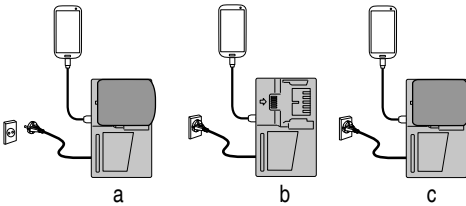

Fig. 9
- Charging a USB device by battery (Fig. 9-a)
- Charging a USB device from a electrical outlet (Fig. 9-b)
- Charging a USB device and battery from a electrical outlet (Fig. 9-c)